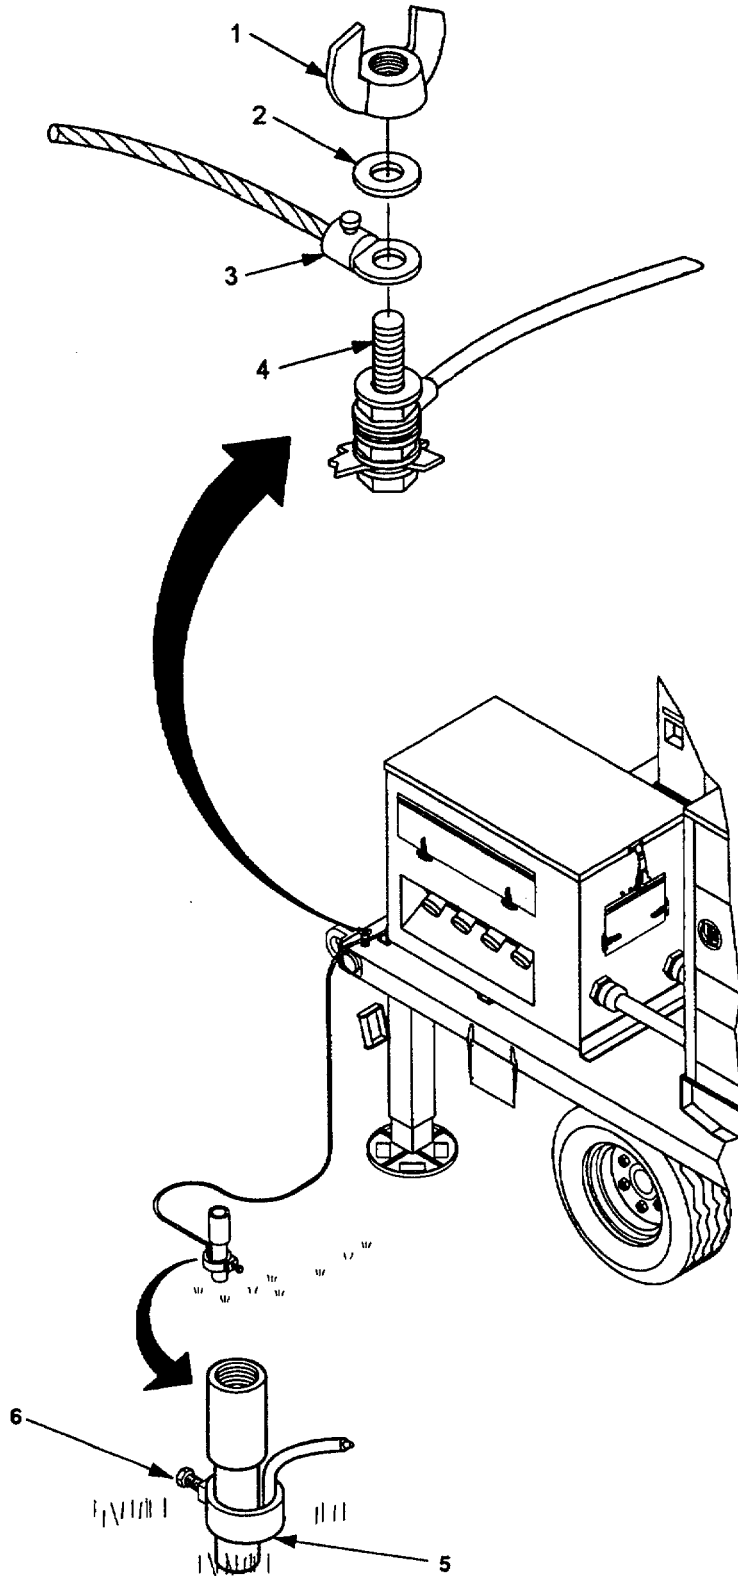

Figure 2-5. Typical Ground Rod Installation.
- h. Remove and retain wing nut (1, figure 2-5) and washer (2) from trailer ground stud (4) and position ground cable terminal (3) on ground stud.
- (2) Install washer (2) on ground stud (4).
- (3) Thread wing nut (1) on the ground stud (4) and tighten.
- (4) Install ground cable end into ground cable clamp (5) and tighten clamp screw (6).